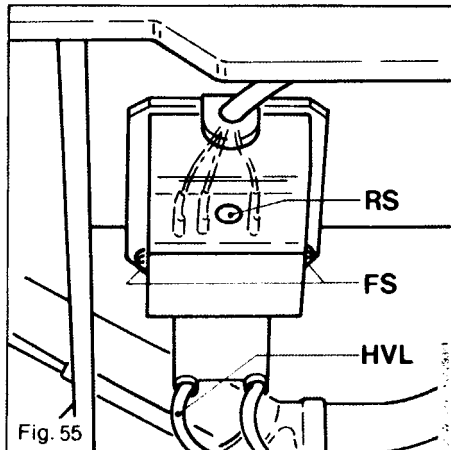

Fig. 55
14.6.7 Change of ignition transformer (Fig. 55)
Gently rotate box to gain access to the ignition transformer and remove retaining screw (RS, fig 55).